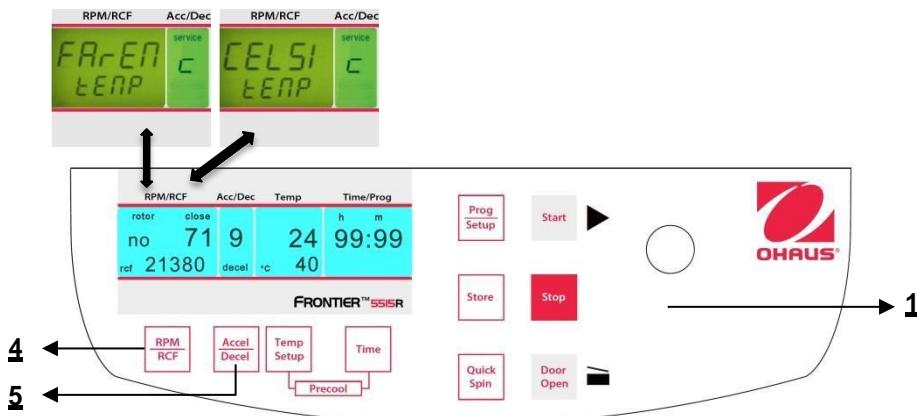

Figure. 32
Proceed as described under point 4.1.2 to enter this program mode and then press the key **"Accel/Decel"** (5). In the display **"Acc/Dec"** (A-2) the word **"Service"** appears. Now select the letter "C" with the adjusting knob (1). As a result, in the display **"RPM | RCF"** (A-1), the words **"CELSI/temp"** appear. If you press the key **"RPM | RCF"** (4), the word **"CELSI"** flashes and you can change the display into Fahrenheit **"FAREN"**, with the adjusting knob (1) (See figure 32).